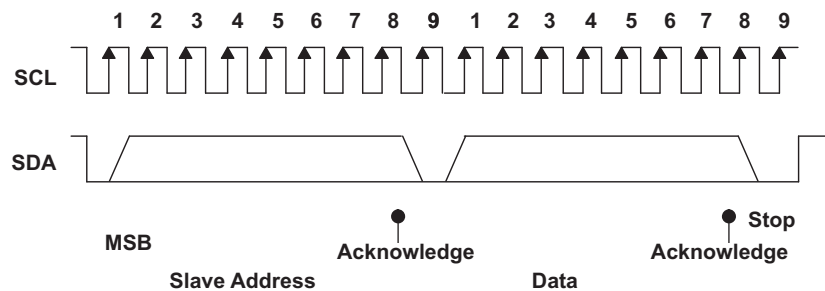

Figure 74. I2C Address and Data Cycles
- The master generates further SCL cycles to either transmit data to the slave (R/W bit 1) or receive data from the slave (R/W bit 0). In either case, the receiver must acknowledge the data sent by the transmitter. Thus, an acknowledge signal (A) can either be generated by the master or by the slave, depending on which one is the receiver. The 9-bit valid data sequences consisting of 8-bit data and 1-bit acknowledge can continue as long as necessary (see Figure 74).